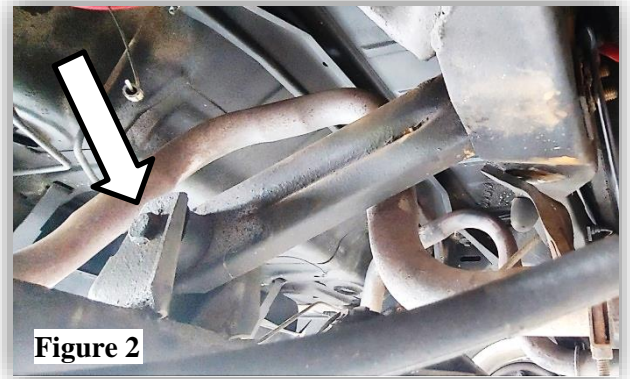

Figure 2
5. Remove the upper trailing arm mount from the axle. **(Figure 2)**